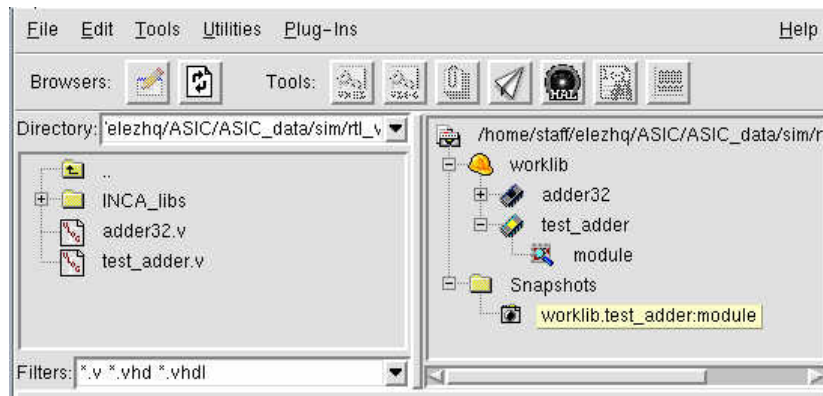

Figure 3-11 Selecting the snapshot.
2. Select the **snapshot**, as shown in figure 3-11.